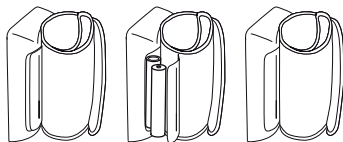

Fig. 1
- Open the battery cover on the underside of the device (see Fig. 1). Insert the batteries (see Chapter 12 Technical data). Ensure correct polarity ('+' and '-') when inserting batteries. Close the battery lid. 12 h or 24 h flashes on the display. Set date and time as described below.